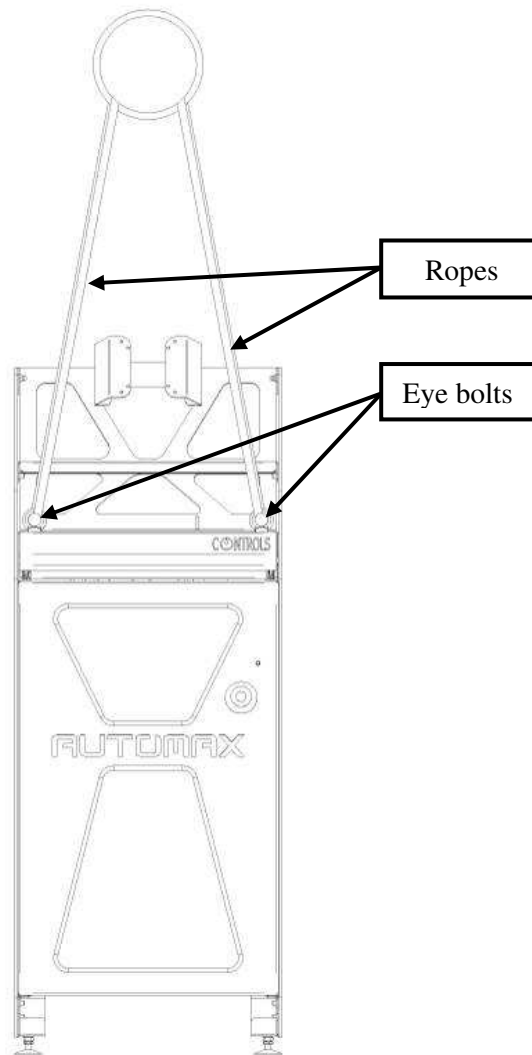

Fig. 3-2
4. The equipment must only be lifted by the eyebolts screwed in on the top of the console. Do not lift it by any other part to avoid damaging the equipment (see Fig. 3-2).